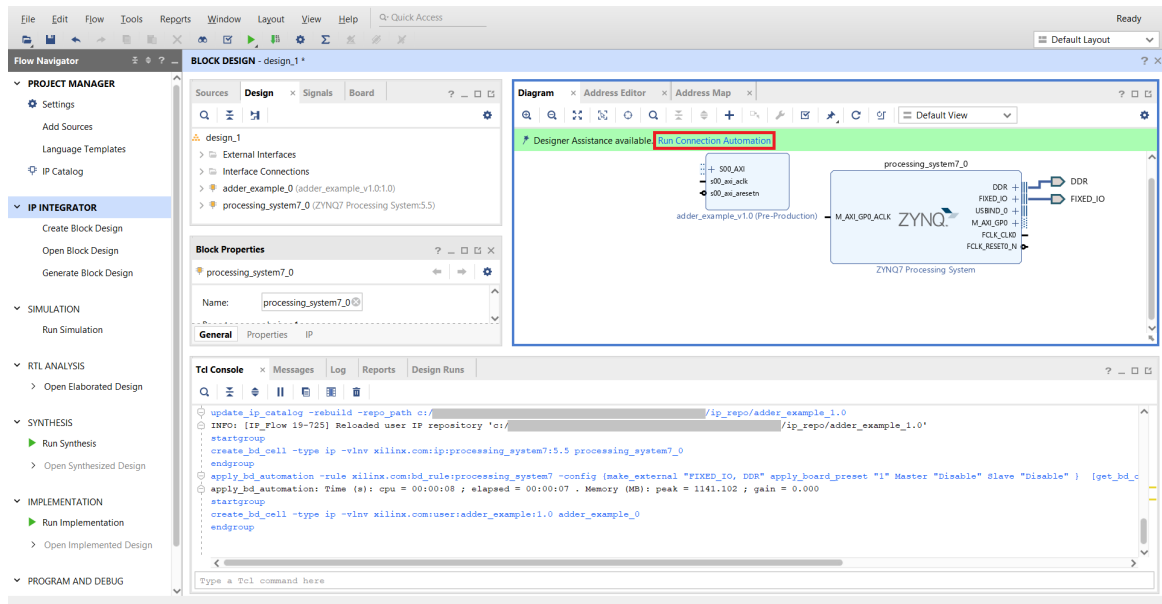

Figure 28: Click on *Run Connection Automation* to automatically connect the Adder IP and the Processing System
- STEP 3: Click on the *plus* button in *Diagram* box and search for *adder\_example\_v1.0*; add this IP by double clicking on it. If the name of your IP is different, search for that one. The IP block should appear as in Figure 28